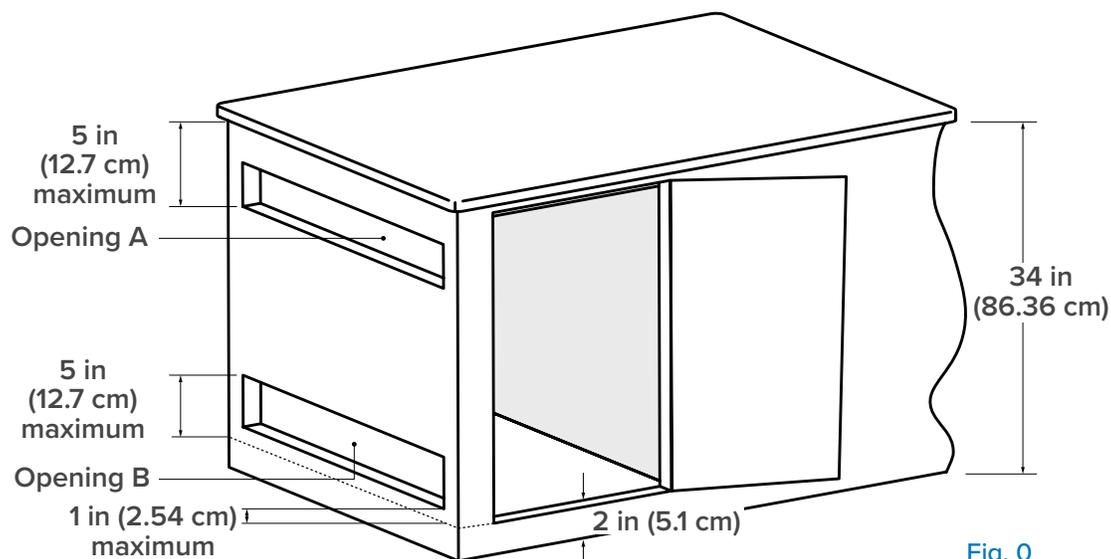

Fig. 0
- The upper edge of the bottom openings must be no more than 5 in (127 mm) above the floor (**Fig. 0**).